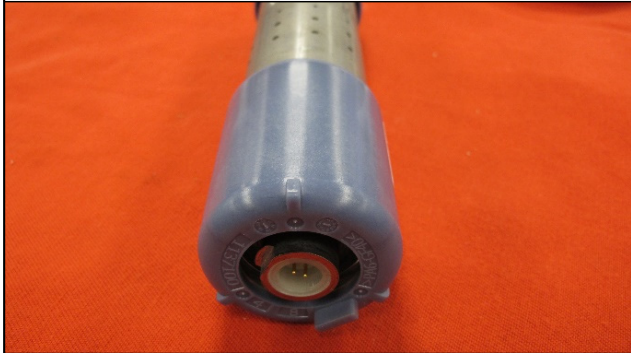

Figure 5
- If the front passenger air bag inflator has a plastic end cap (Figure 5 and Figure 7 on page 6), no replacement is required. Reassemble the instrument panel in the reverse order of disassembly.